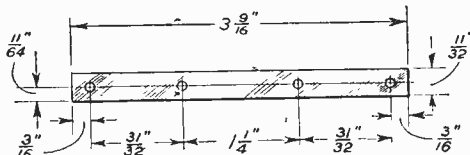

Fig. 5.—Another portion of the locating mechanism.
4. The various parts of the locating mechanism may now be attempted. Two further parts to mount to the circular disc B are manufactured. These are shown in Figs. 5 and 6. The semi-circular piece, part D, has all its measurements taken relative to a centre not actually on the finished piece of metal itself. When originally marked out, however, this centre may be marked by a light centre-punch on a slab of metal approximately 2 3/4 in. by 4 in. and all the dimensions scribed out before the required piece is cut out. A large amount of the metal inside the arc may be removed by criss-cross cutting with a hacksaw.